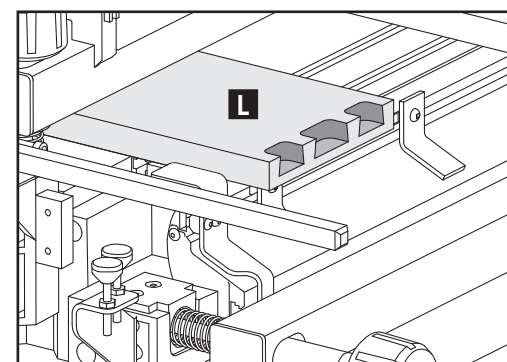

Fig. E10
NOTE: Move router slowly from left to right, taking small cuts and multiple passes. Your final cut should resemble Fig. E10.
14. Remove pinboard (L) Fig. E10.